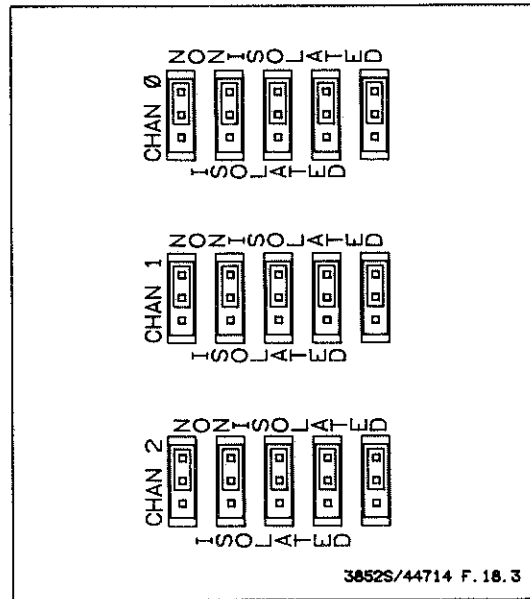

Figure 18-3 Non Isolated Output Self Test Setup
2. Place the ISOLATED/NON ISOLATED jumpers on the terminal module in the NON ISOLATED position as shown in Figure 18-3.